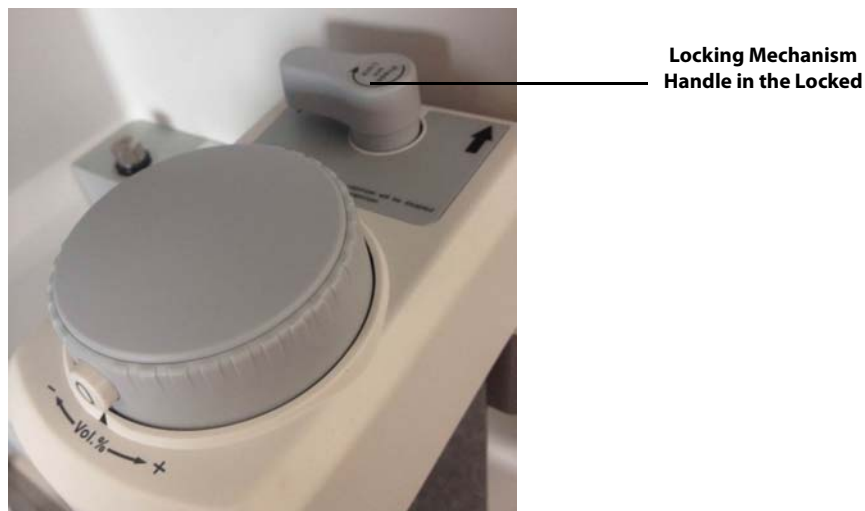

FIGURE 2-3 Vaporizer, Locked
3. Rotate the locking mechanism handle clockwise into the locked position as shown in FIGURE 2-3.